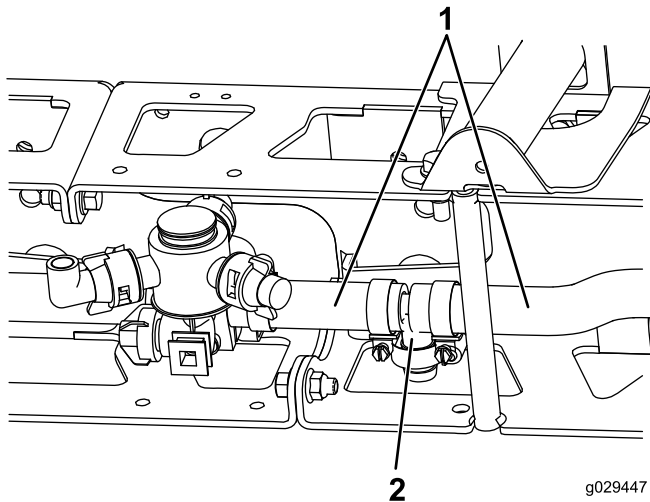

Figure 7
4. Remove the tee and its surrounding hoses (Figure 7).